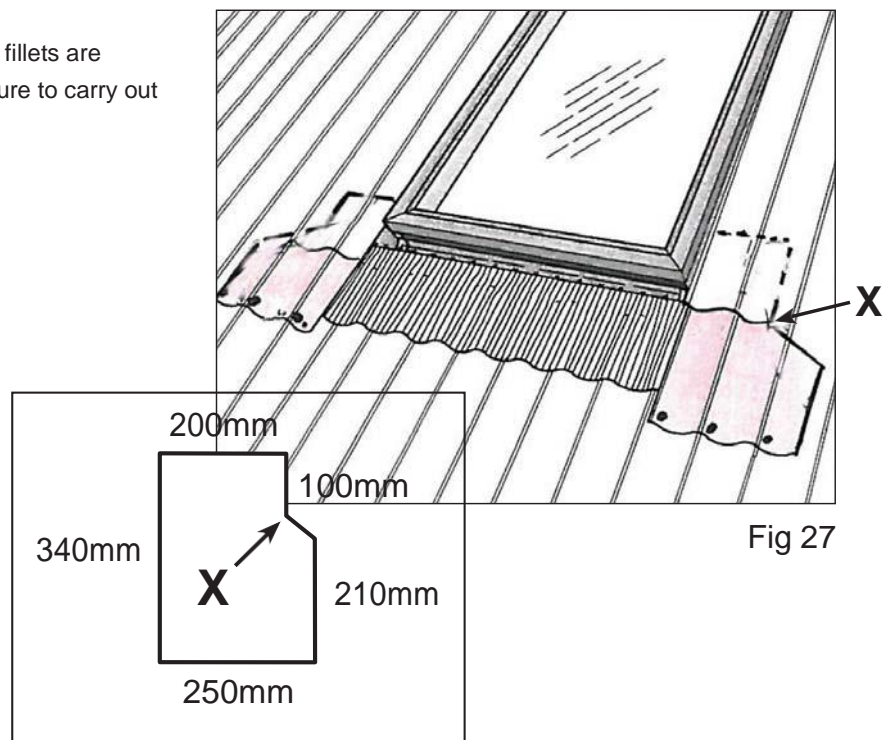

Fig 27
33) Re-fit the roofing material (Fig 27).
34) See Fig 27: Two roofing material fillets need to be made to the dimensions shown in Fig 27, one left hand – one right. These can be made from the piece of roofing iron cut out for the skylight. Use the same color iron as the roof off cuts. The fillets are designed to slide hard up under each corner. The point "X" must be on a high point of the profile of the roof. Ensure no ragged edges that may cause the mat to rip. They can then be attached at the bottom edge to the roof with pop rivets. The iron that goes over the fillet can then be pop riveted to the fillet to hold it down. Do not screw or pop rivet through skylight flashing.